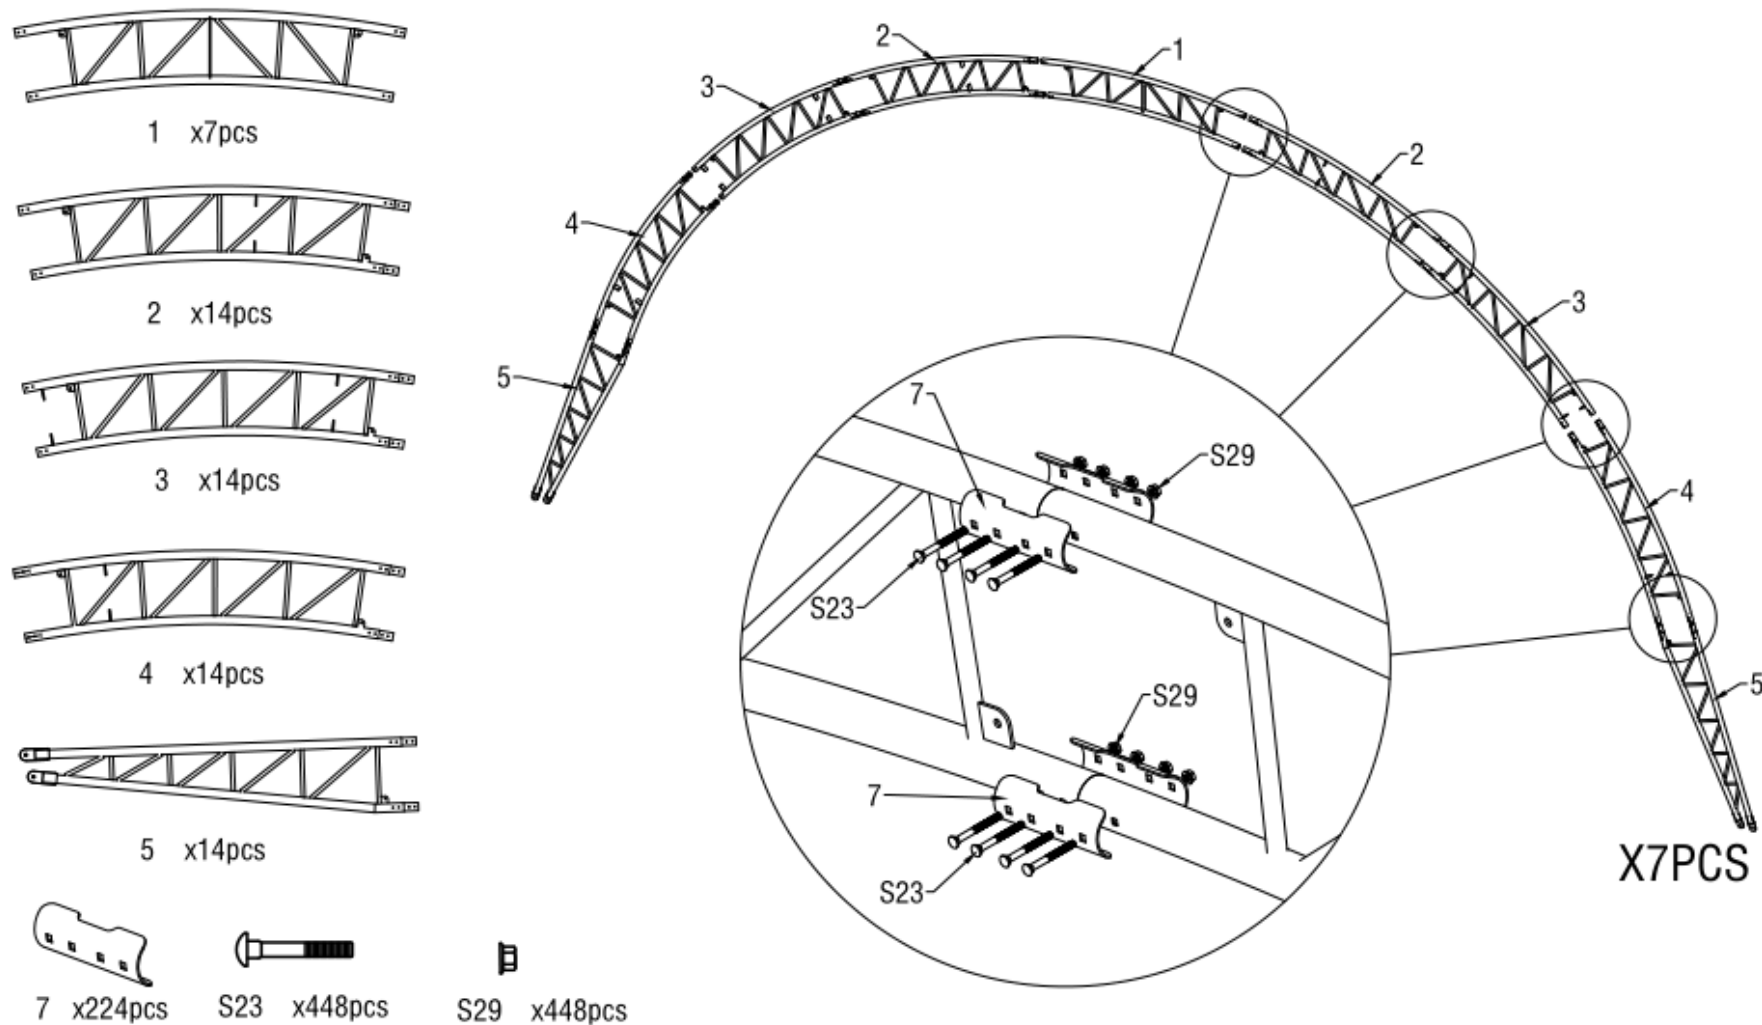

Figure 4
2. As Figure 4 shown to find one Top roof tube (No.1), two Roof upper curving tube (No. 2), two Roof middle curving tube at shoulder (No. 3) ,two Side lower curving tube (No. 4),two Lower curving tube (No. 5) and assemble every group arch with Screw M8x80 (No.S23). **DO NOT install the screw on the top of the truss where the fabric will rest.**
Note: Top Roof tube,Roof curving tube, Roof middle curving tube, Side lower curving tube and Lower curving tube (No.1A,2A,3A,4A&5A) which are welded with steel plates for front and back doors are different from the middle arch.(Figure 4)